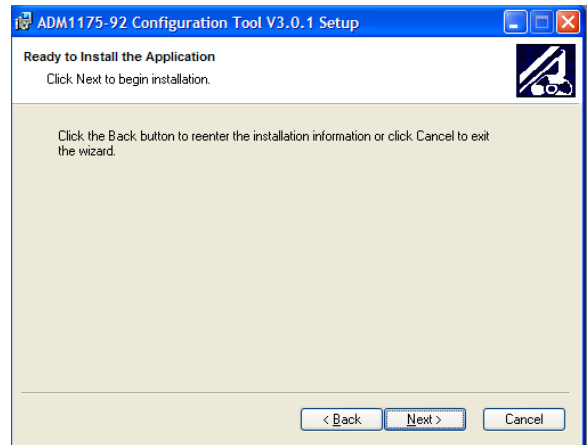

Figure 6. Evaluation Software—Ready to Install
5. To change the destination folder, click **Browse** to create a new destination folder. Otherwise, click **Next**. The **Ready to Install the Application** window appears (see Figure 6).